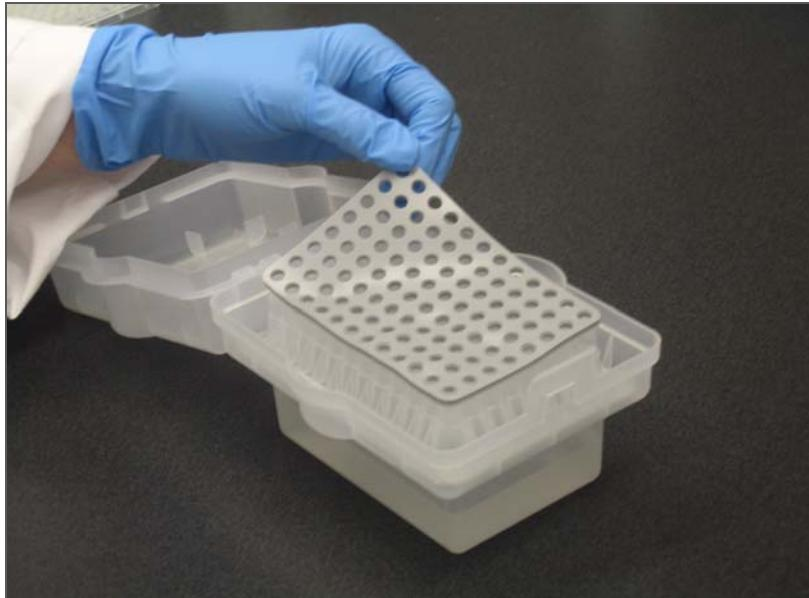

Figure 101 Press Gasket onto Funnel Plate
6. Press the 96-hole gasket onto the funnel plate (Figure 101).